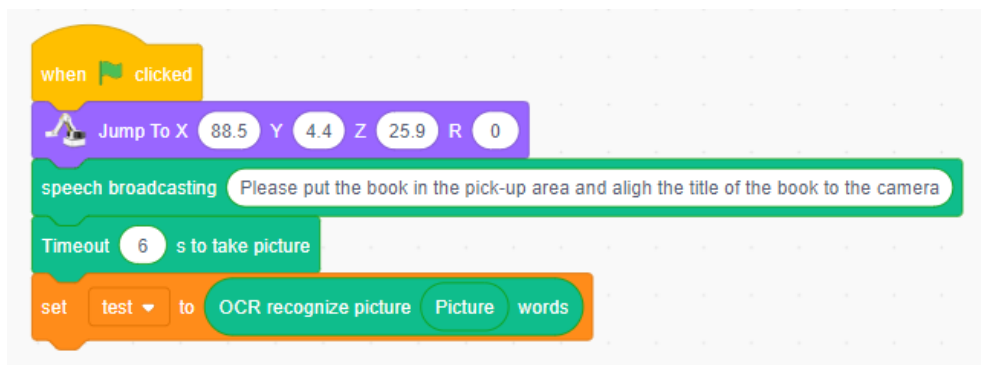

Figure 5.21 Recognizing text in the picture
Step 7: Store the text recognized by OCR in the variable *test*. Click on the **AI** tab and drag "OCR-recognize picture...words" block onto the variable *test*; click the **AI** tab, and drag the "Picture" block to the OCR recognition block, as shown in Figure 5.21.